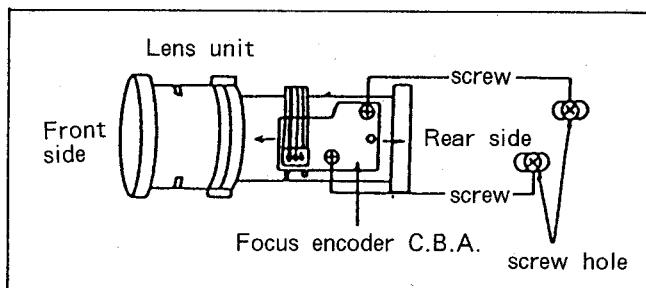

Fig. C11-1
5. Loosen 2 screws of Focus encoder C.B.A. and move C.B.A. to center position as shown in Fig.C11-1.